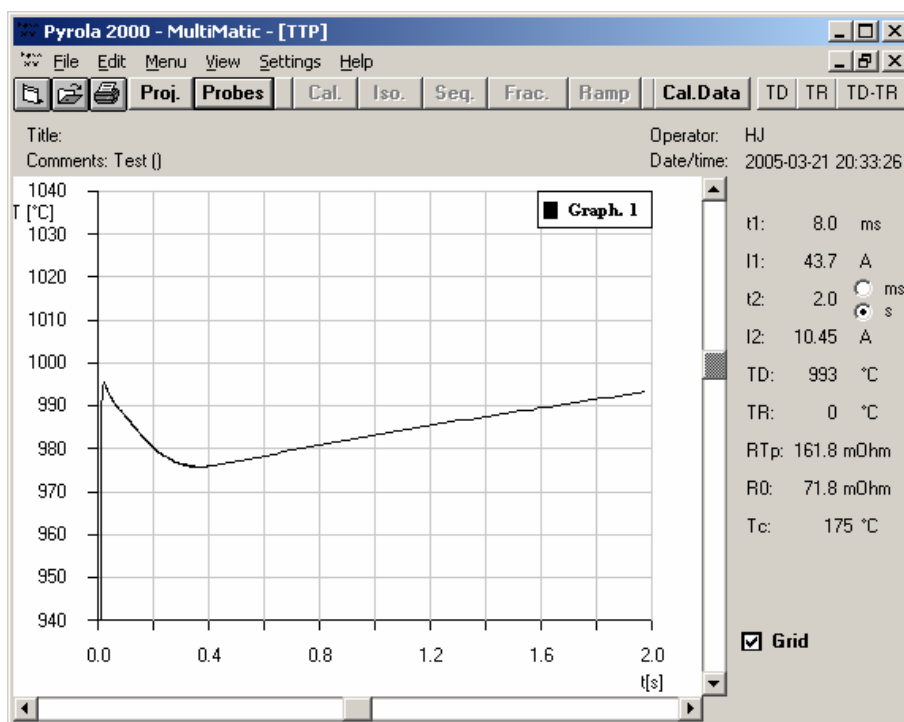

Figure 4-3. TTP diagram.
7. The TTP diagram is shown, see Figure 4-3. Check that the initial pyrolysis temperature T_d is in the range from 975° to 1000° C, and that the final temperature is the same as the initial temperature, within $\pm 5^\circ$ C. If not, adjust I_1 and I_2 and repeat steps 8-9. If the calibration window is hidden behind the TTP diagram, you may show it by pressing the button 'Cal.' above the graph. Data of the current pyrolysis is shown to the right of the TTP diagram. The same information is also shown in the Calibration of filament window under 'Last results'.